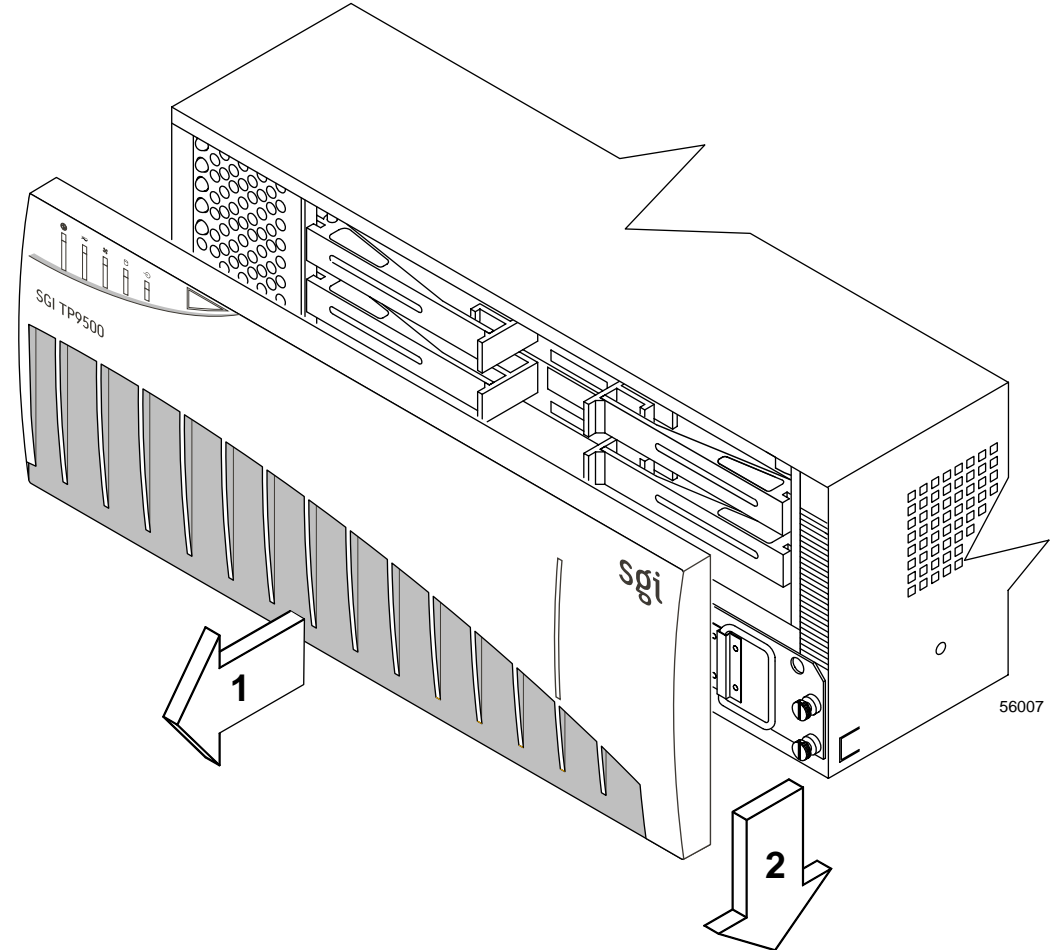

Figure 4-1 Removing the Front Cover of the Controller Enclosure
3. Remove the front cover (see Figure 4-1).
7. Replace the front cover on the controller enclosure (see Figure 4-1 on page 47).
6. Replace the front cover by reversing the sequence in Figure 4-1.
2. Remove the front cover (see Figure 4-1).